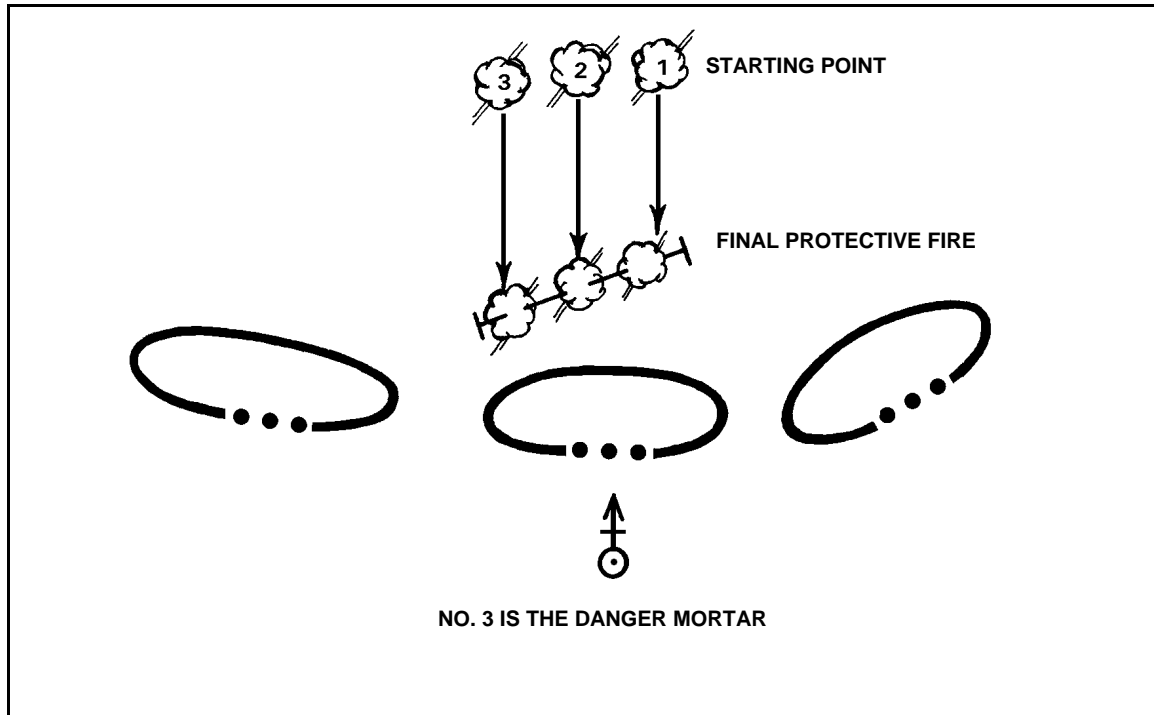

Figure 14-13. Determination of danger mortar.
e. When adjusting each mortar, the FO may (in the call for fire) give a section left (SL) or section right (SR) to determine the danger-close mortar. The danger-close mortar is the one impacting closest to friendly troops.
- (1) Once the danger mortar is known (Figure 14-13), it is adjusted onto the FPF line.
- (2) Once the danger mortar has been adjusted, the next mortar (No. 2) is given the danger mortar data and fired. The firing of the same data should put the impact of the next mortar 40 meters left or right of the adjusted mortar.